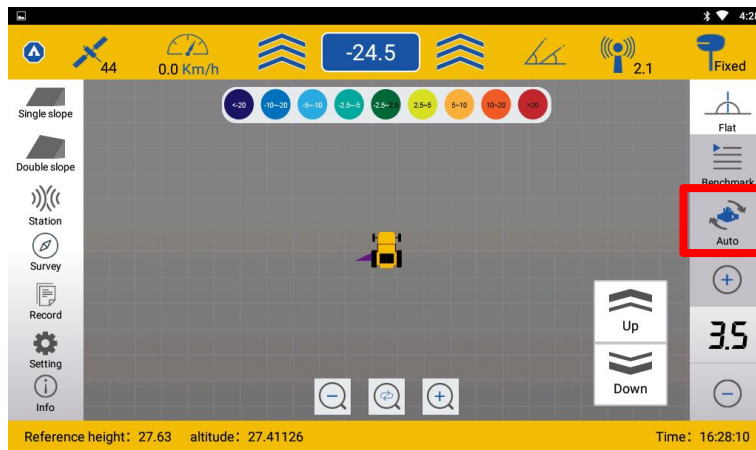

Figure 18
Step8. Click the manual-automatic switch button to switch to automatic mode. Start working in automatic mode. (Figure 18)